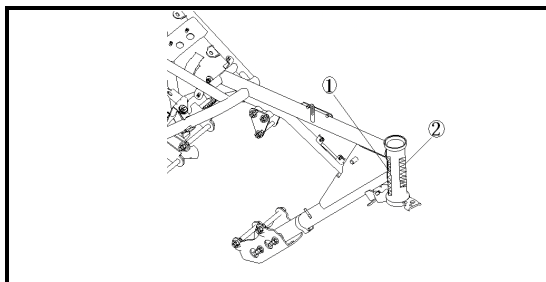

Figure 1-1
1. Frame number ① labeled as : LBBPEM2A***** (Just for reference. Labeling method may differ due to various conditions), as shown in Figure 1-1.
2. Frame nameplate is riveted at Position ②, as shown in Figure 1-1.